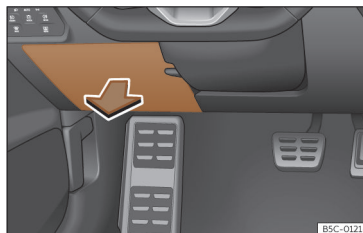

Fig. 203 On the dashboard on the driver side: lid of the fuse box.
- *Open*: fold the cover down >>> **Fig. 203**.